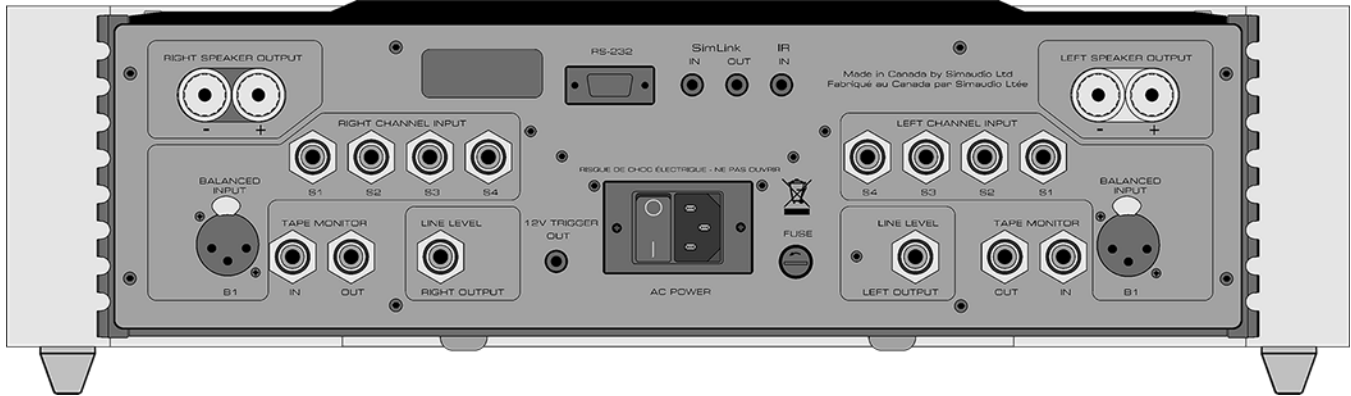

Figure 2: Rear panel of MOON 700i v2 Integrated Amplifier
The rear panel of the **MOON 700i v2** dual-mono integrated amplifier will look similar to Figure 2 (above). There are two rows of connectors; the top row contains one pair of heavy-duty gold-plated speaker binding posts for each channel to connect to your loudspeakers. This integrated amplifier is equipped with full-function bidirectional RS-232 port control and status for custom integration or automation. This is located in the middle section and uses a DB9 connector. Immediately to the right of the RS-232 port are two (2) “SimLink” connectors labeled “in” and “out” on 1/8” mini jacks. Please refer to the next section entitled SimLink for more details. As well, there’s a 1/8” mini-jack input for use with aftermarket infrared remote control receivers.